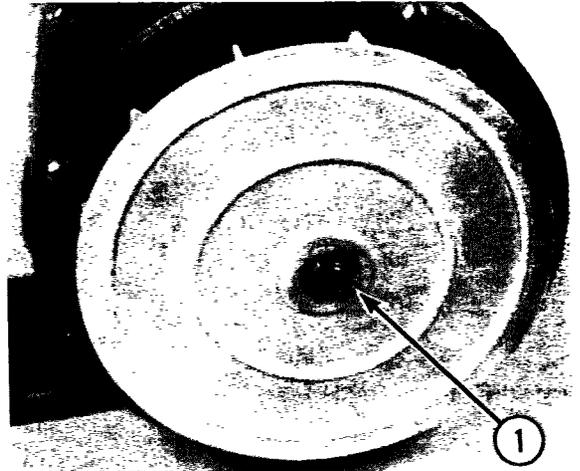

Fig. 2-10
- (1) Remove the retaining ring and fan (1, Fig. 2-10).